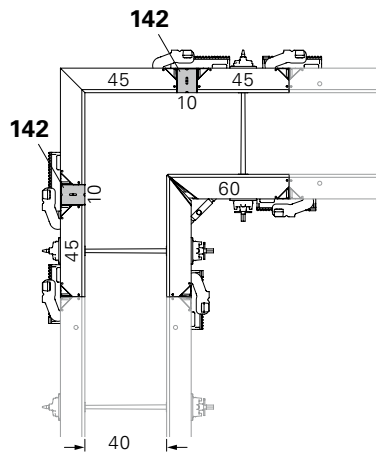

Fig. C2.08
- Wall thickness 40 cm: Fig. C2.08